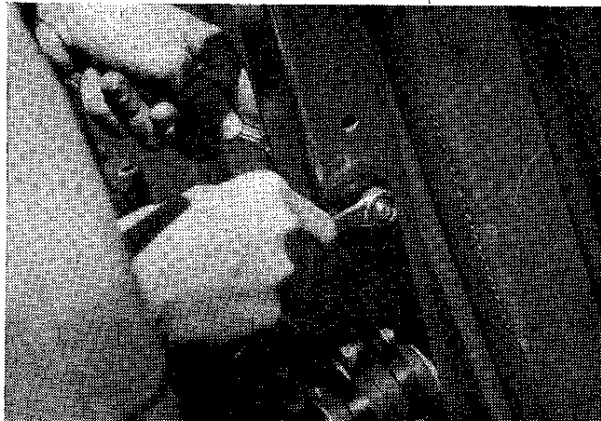

Figure 2.14
19. Secure engine mount assembly by tightening (2) 5/16" locknuts. **Figure 2.14**